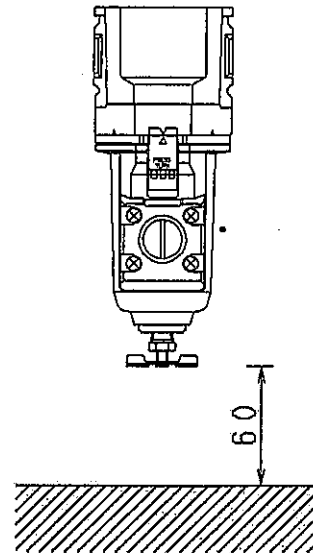

Fig.4.
- 4) Allow a clearance or above 60 mm under the bowl so that parts can be removed during disassembly. (See Fig.4.)